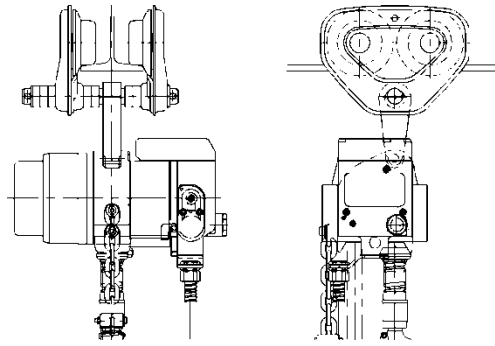
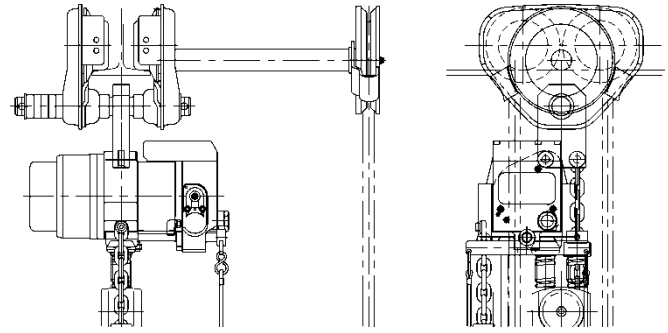

Figure 3-21 Lug mount on TF2
Figure 3-22 Lug mount on Geared TS2 Extended Hand Wheel
- 1) Refer to **Figure 3-21**.
- 3.3.4 Standard configuration for a TCR/S/K/L hoist is lug mounted to the trolley using a TCR/K/L Suspender. As shown in **Figure 3-21** or **Figure 3-22**.